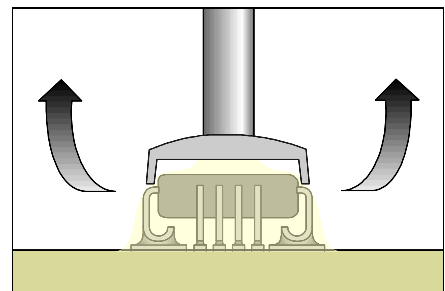

Figure 3: After solder has melted lift component straight up.
3. Place the nozzle directly over the top of the component and activate the air flow. When the solder has melted actuate the vacuum assist or lift off the component with a vacuum pen. Lift the component straight up. (See Figure 3).